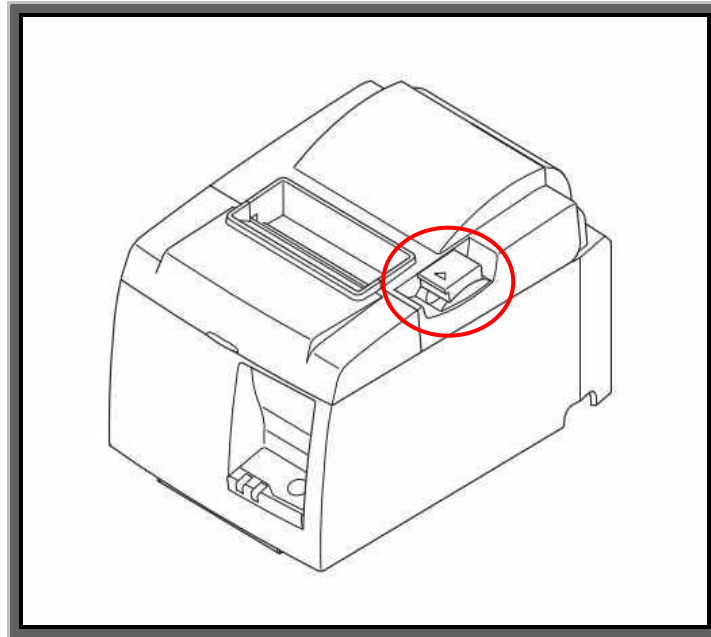

Fig. AP1-1
1. Release the printer top cover lock by pushing back the lock switch (Fig. AP1-1).